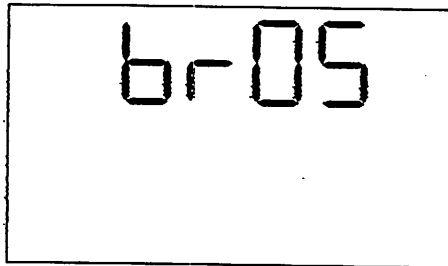

Figure 10. Aiming Dot Intensity Setting
The in-scope red aiming dot has eight intensity settings from *OFF* (00) to *BRIGHT* (07). Refer to the instructions and Figure 10 below to adjust the red aiming dot's intensity.
1. Press the **BRIGHTNESS CONTROL button**. The display should look similar to Figure 10. The current setting is whatever "br xx" is displayed. The factory default setting is "br 05" as shown in the figure.